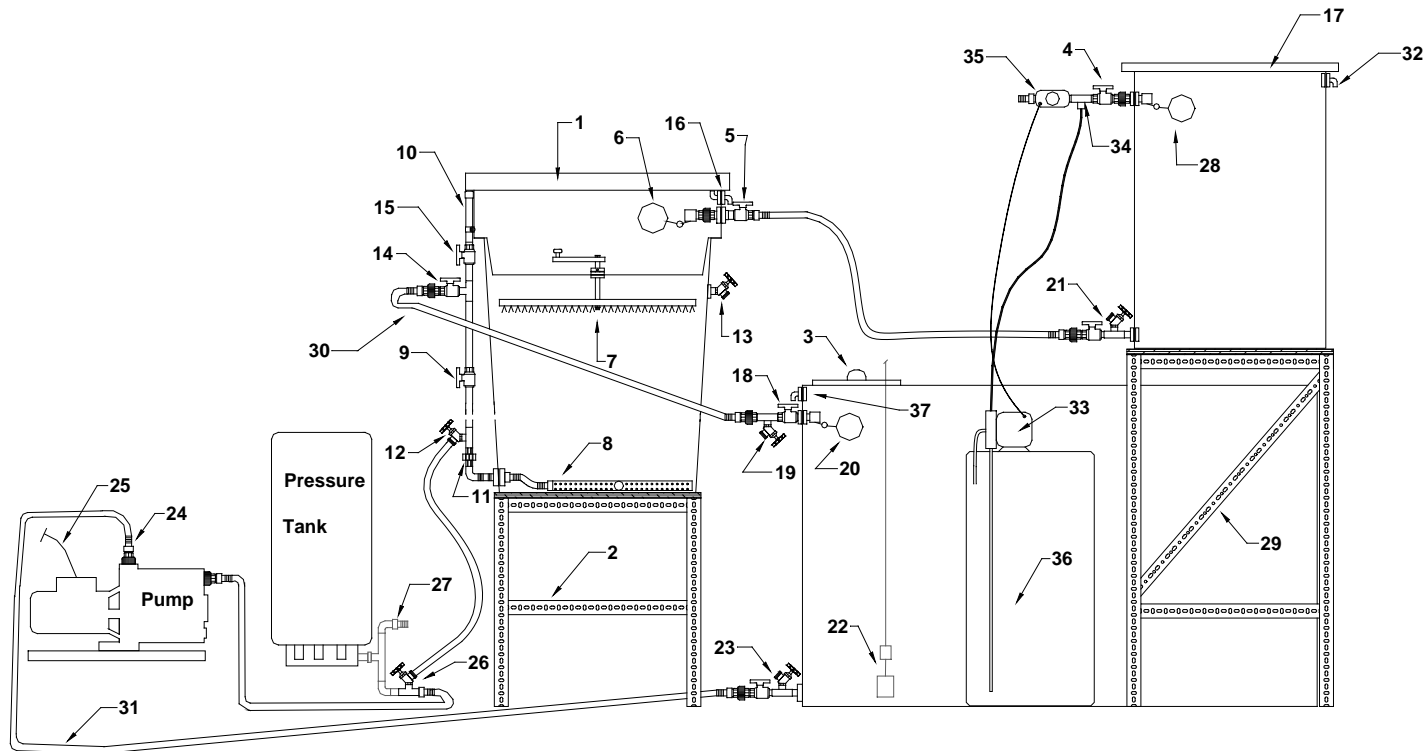

Figure 1 - Automated System Layout - Chemical Oxidation
- **Refer to Figure 1 to find the locations for all system components.**